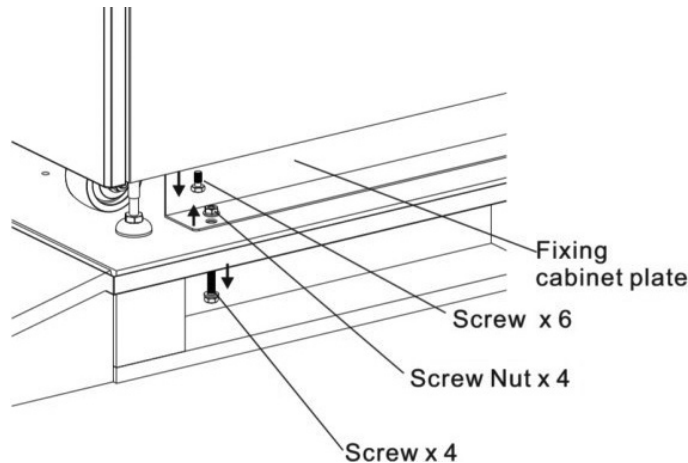

Figure 2-3
- 4 - Remove 2 fixing cabinet plates and loosen leveling feet by rotating them counterclockwise. Then, move the cabinet from the pallet. Refer to Figure 2-3.